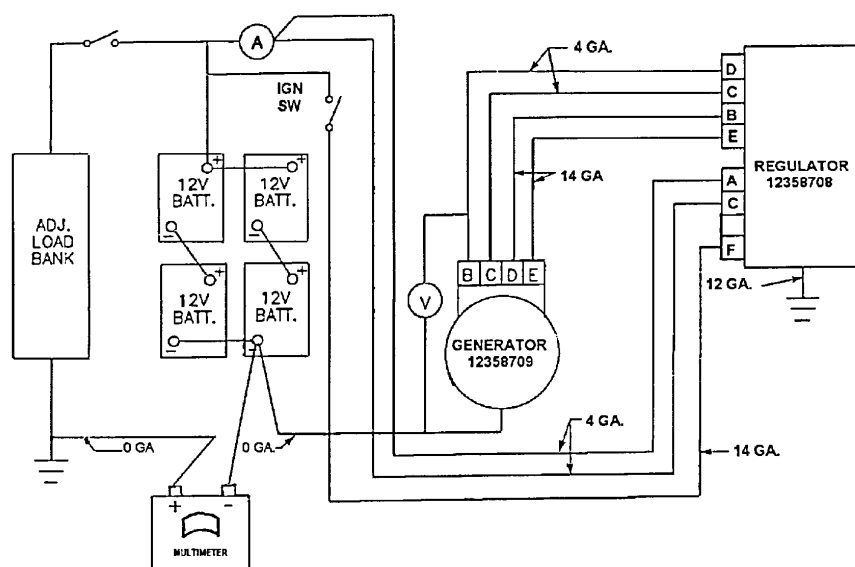

Figure 2-13. Charging System Schematic
c. Attach multimeter as indicated in Figure 2-13. If an in-line multimeter is used, disconnect battery ground cable before connecting multimeter. Then reconnect battery ground cable. Multimeter connections must carry rated output of generator.
b. Mount generator on test bench according to the bench manufacturer's instructions. Refer to Figure 2-13 for set-up to measure voltage and amperage produced by generator. For bench tests, voltage is normal when it is within the normal range of Table 2-2, and amperage is high when it is within +/- 10 % of rated output (output 5000 RPM).